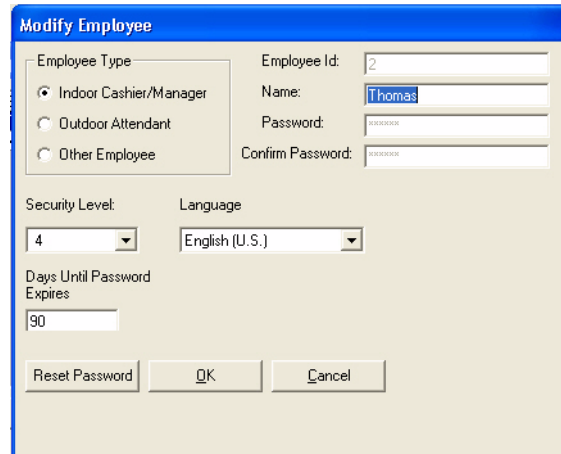

Figure 7-5 Add Employee Window
4. Enter the **Employee Name**, **Password**, **Confirm Password**, **Security Level** and the number of days before the employee password expires. See Figure 7-5.